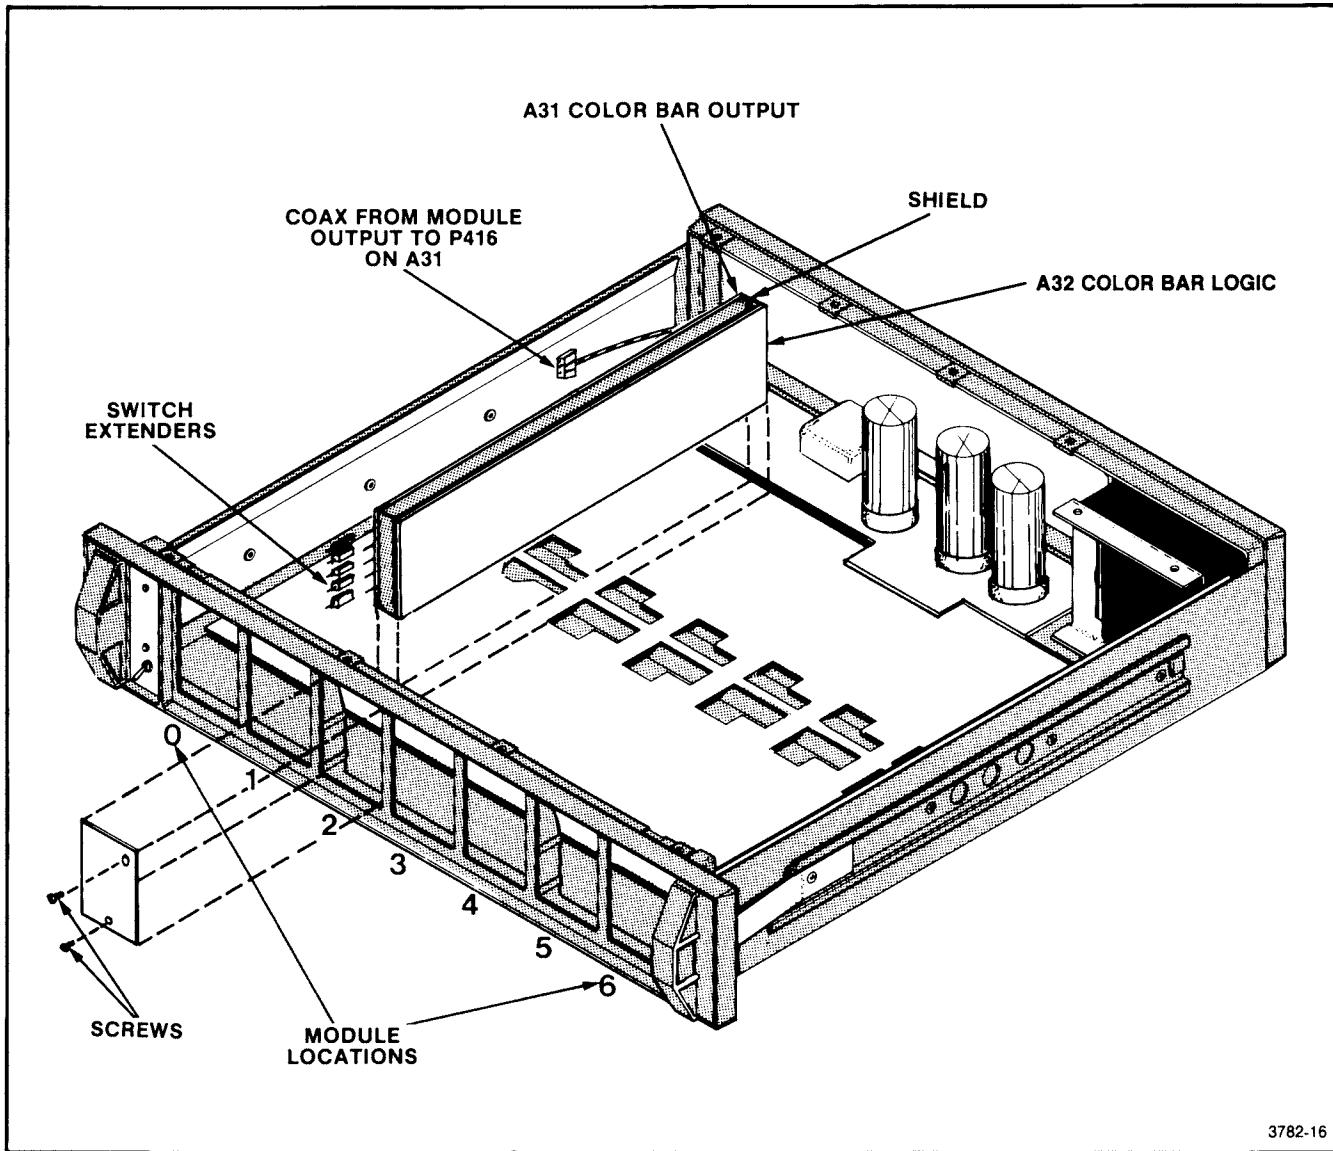

Fig. 3-3. Installing the module circuit boards in the 1410 mainframe.
- b. Select a module location for the TSG7. The recommended location for placement of the TSG7 is location 2. See Table 3-1 and Fig. 3-3 for the recommended placement of all the TSG modules when operating with the TSG7.
- | h. Connect the coaxial cable from the 1410 Module Output connector selected (P58, pins 1 & 2 for location 2) to the output pins (P416, pins 3 & 4) of the A31 Color Bars Output board. Cables are color coded to match location designations shown in Fig. 3-3.